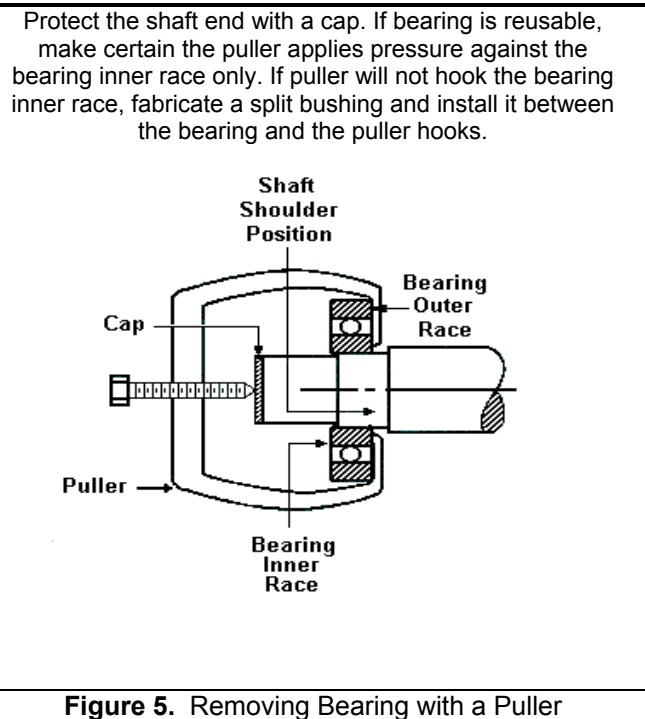

Figure 5. Removing Bearing with a Puller
4. Remove the bearing with a puller. See Figure 5.